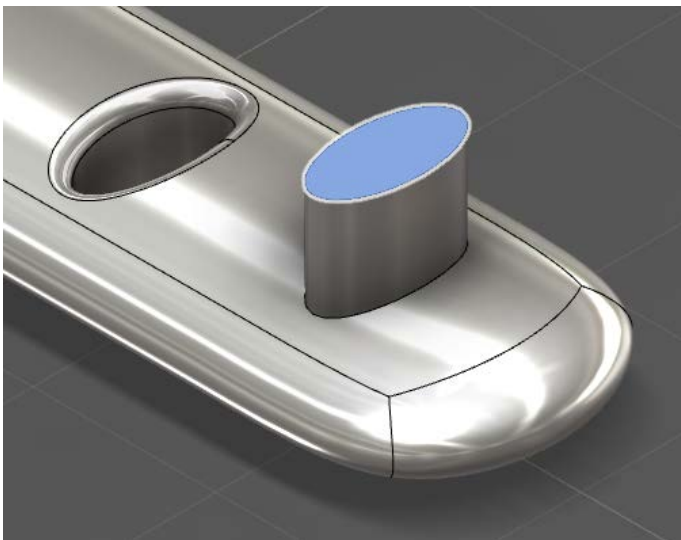

Fig. W14
18. Go to Modify>Press Pull, select the tab's top face and offset and pull up to JOIN the bracelet (Fig. W14).